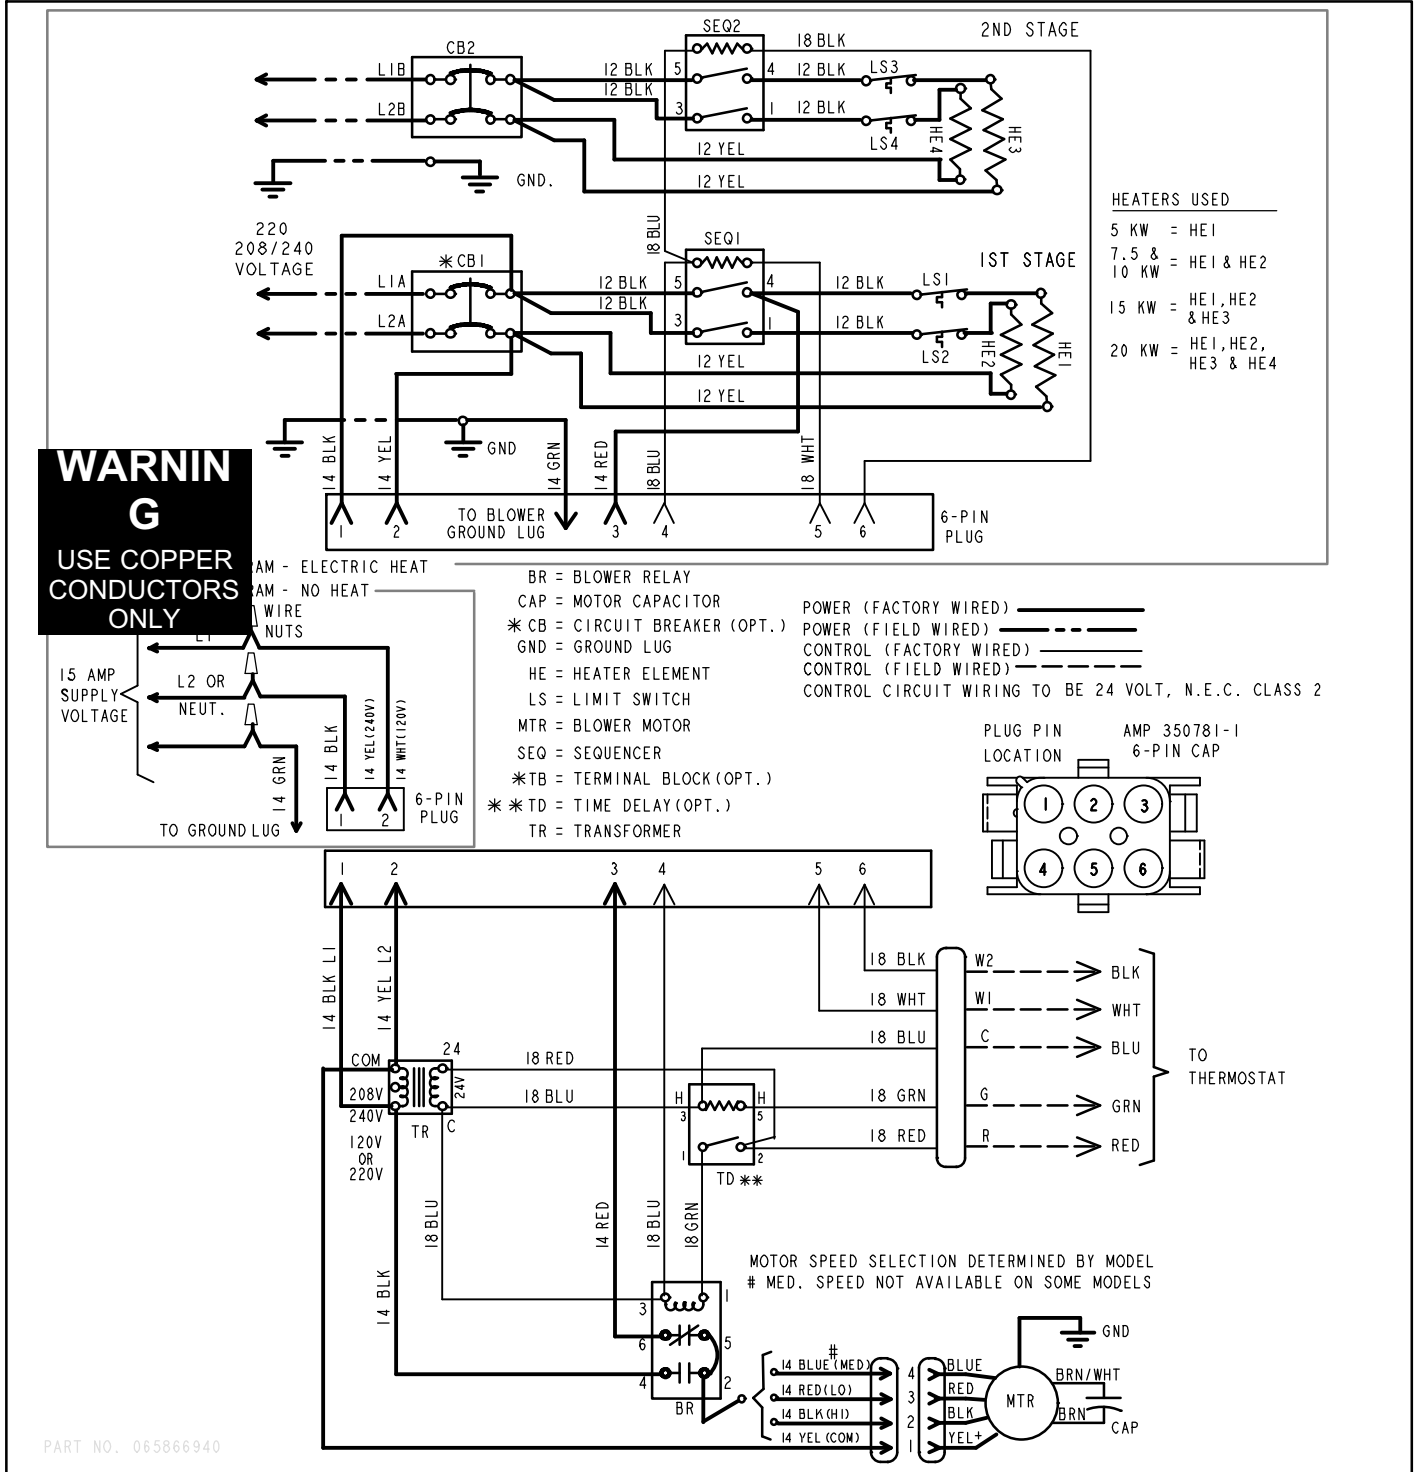

Figure 11. Wiring Diagram
3. Using the wiring diagram in figure 11 as a reference, move the 2 connected black transformer leads from the 240 volt terminal on the transformer to the 208 volt terminal on the transformer.
NOTE — Refer to wiring diagram (figure 11) and blower performance (starting on page 11).